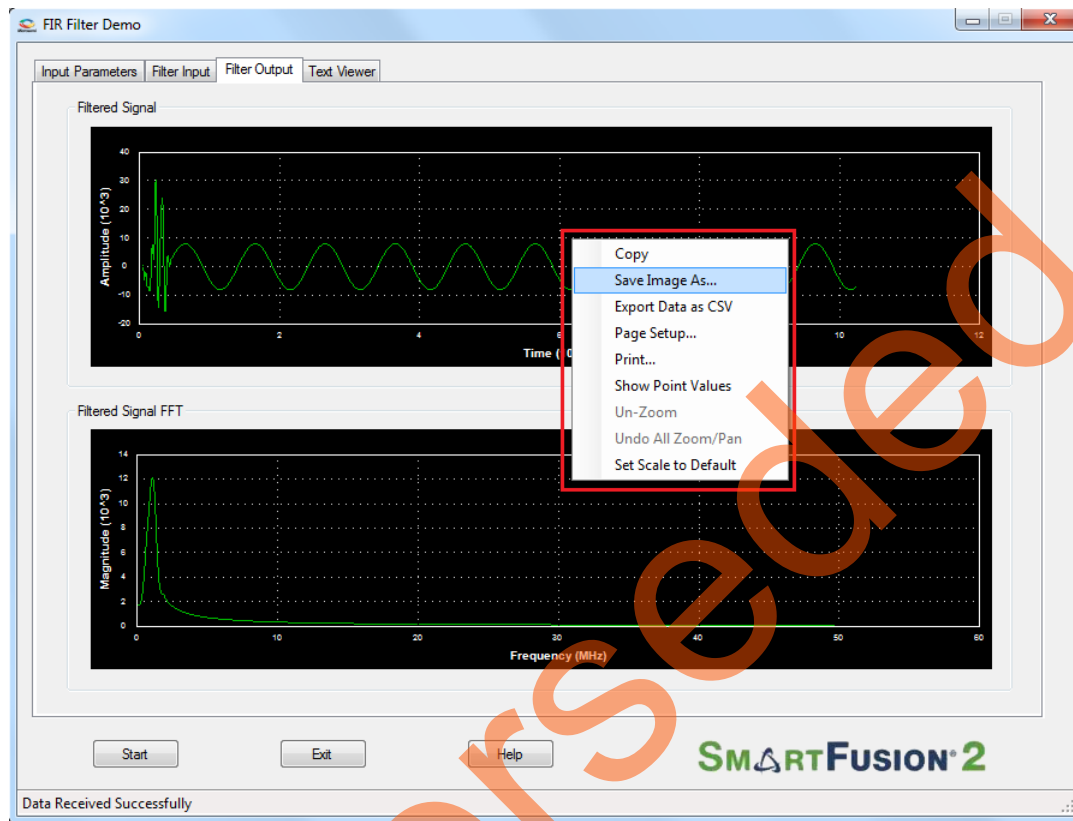

Figure 21 • Filtered Signal: GUI options
6. Right-click on the window, it shows different options. Refer to Figure 21. The data can be copied, saved, and exported to the CSV plot for analysis purpose. Page setup, print, show point values, zoom, and set scale are set to default.